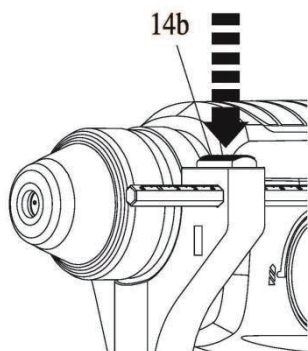

Fig. 4
- > You can set the drilling depth with the depth stop (2). Depress the quick clamp (14b) and hold it in position (Fig. 4)